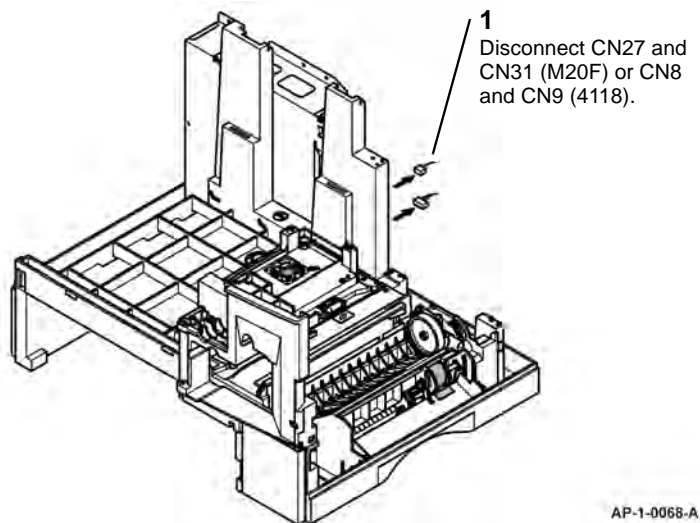

Figure 1 Connectors
2. **(M20F)** Disconnect CN27 and CN31 from the PBA main, Figure 1.
- (4118)** Disconnect CN8 and CN9 from the HVPS, Figure 1.